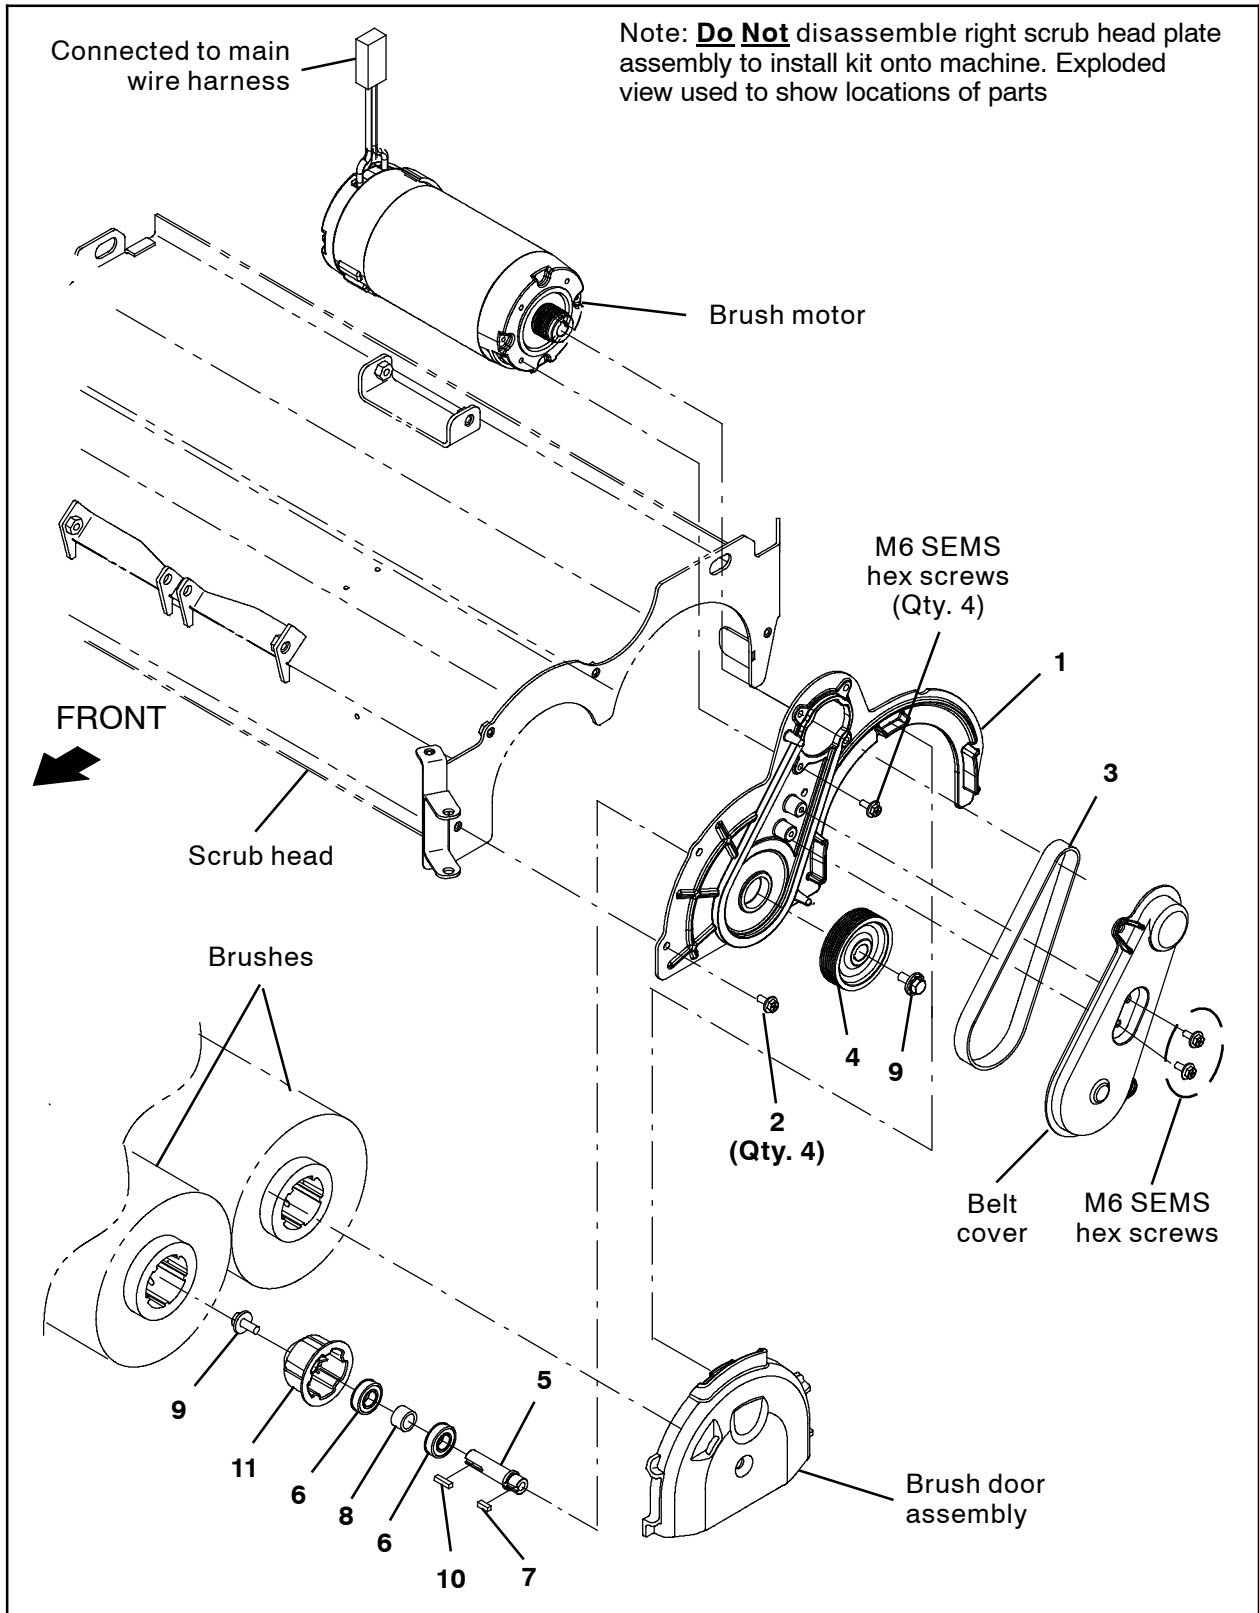
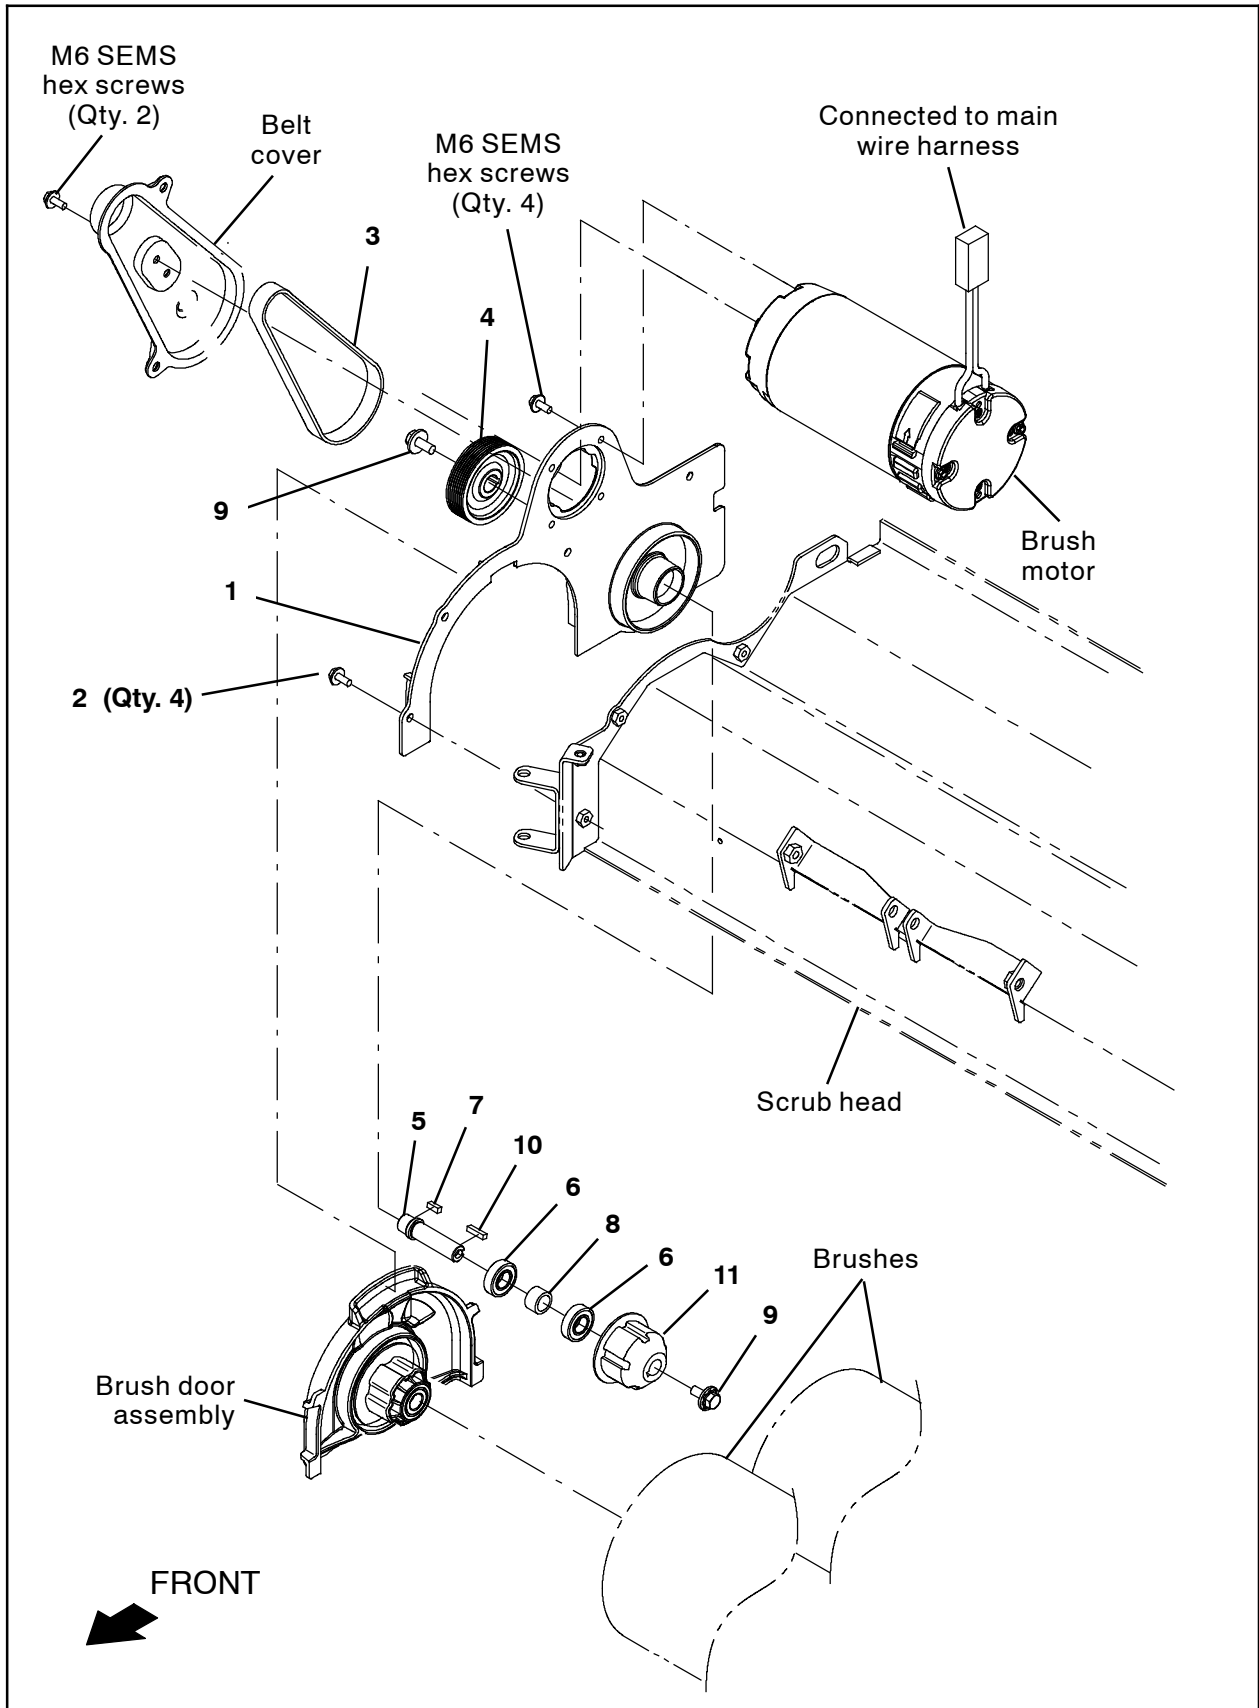

FIG. 1
FIG. 2
1. Disconnect the main wire harness from the brush motor. (Fig. 1 / Fig. 2)
2. Remove the right or left scrub head plate assembly from the main scrub head. Discard the four M6 hex screws and flat washers used to secure the scrub plate assembly to the main scrub head. (Fig. 1 / Fig. 2)
3. Remove the belt cover from the scrub head plate assembly. Set the belt cover and two M8 SEMS hex screws aside. (Fig. 1 / Fig. 2)
4. Remove the brush motor from the scrub head plate assembly. Set the motor and the four M6 SEMS hex screws aside. Discard the belt and the remainder of the scrub plate assembly. (Fig. 1 / Fig. 2)
5. Use the four saved M8 SEMS hex screws to install the brush motor onto the new scrub head plate (1). Do not tighten the M8 SEMS hex screws. (Fig. 1 / Fig. 2)
6. Use the belt installation tool included with the kit to install the belt (3) onto the sheave (4) and the brush motor. (Fig. 1 / Fig. 2)
7. Tighten the M8 SEMS hex screws to secure the brush motor to the scrub head plate (1). (Fig. 1 / Fig. 2)
8. Use four M6 SEMS hex screws (2) to install the scrub head plate assembly onto the scrub head. (Fig. 1 / Fig. 2)
9. Reinstall the belt cover onto the scrub head plate assembly. (Fig. 1 / Fig. 2)
10. Reconnect the main wire harness to the brush motor. (Fig. 1 / Fig. 2)